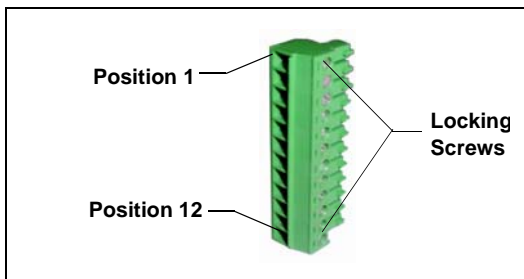

Figure C-2. 12-Position Connector Plug
1. Locate the twisted pair of wires (P/N 043598) and the 12-position connector plug (P/N 923687) (see Figure C-2) in the Dionex ICS-2100 Ship Kit (P/N 064375).